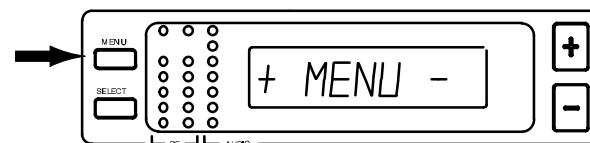

FIGURE 16
1. Press the MENU button. The + MENU - display will appear, as shown in Figure 16.